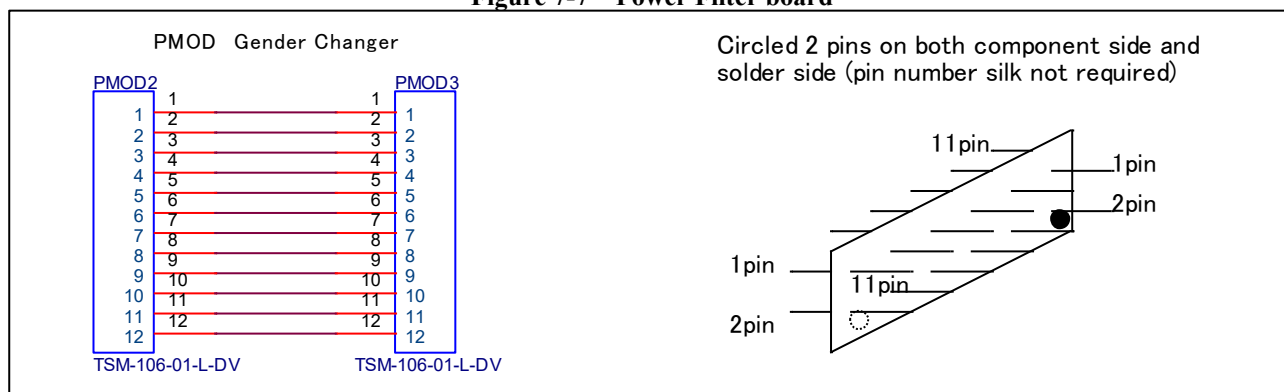

Figure 7-8 PMOD conversion board
- Circuit design examples are shown in Section 7.1 (Figure 7-1-Figure 7-8), and Bill of materials examples are shown in Section 7.2 (Table 7-1-Table 7-5).